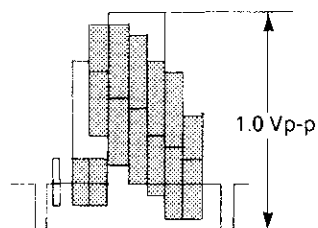

Figure 2-5.
6. Repeat the above step 5 to finally get the playback video signal level at 1.0 \pm 0.04 Vp-p, as shown in Figure 2-5.